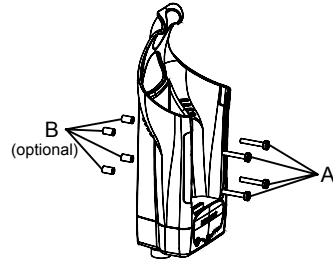

Figure 3 – Mounting with Screws
Mounting with Screws (see Figure 3)
2. Insert the four screws in the cradle mounting holes, see Figure 3, A;
3. One or more spacers can be used optionally to compensate for mounting to irregular surfaces, see Figure 3, B;